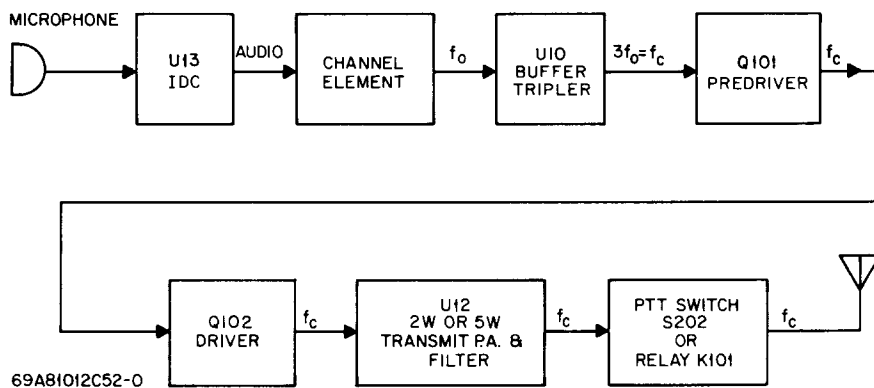

Figure 23. VHF Transmitter Block Diagram
The transmitter circuits are functionally the same, containing a microphone and an Instantaneous Deviation Control (IDC) module in the audio section (refer to Figures 23, 24, and 32). The VHF and UHF transmitters contain a channel element, a buffer tripler, a predriver (VHF) or a second tripler (UHF), a driver, and a power amplifier. The low band rf transmitter consists of an oscillator, a multiplier ($2f_o$, 30-36 MHz; $3f_o$, 36-50 MHz), a predriver, a driver, and a power amplifier.
a. General (Refer to Figures 23 and 24)